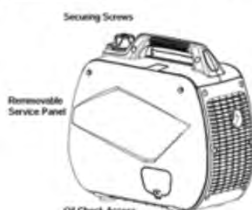

Fig. 15A
1. Loosen the cover screws and remove the maintenance cover. (Fig. 15A)